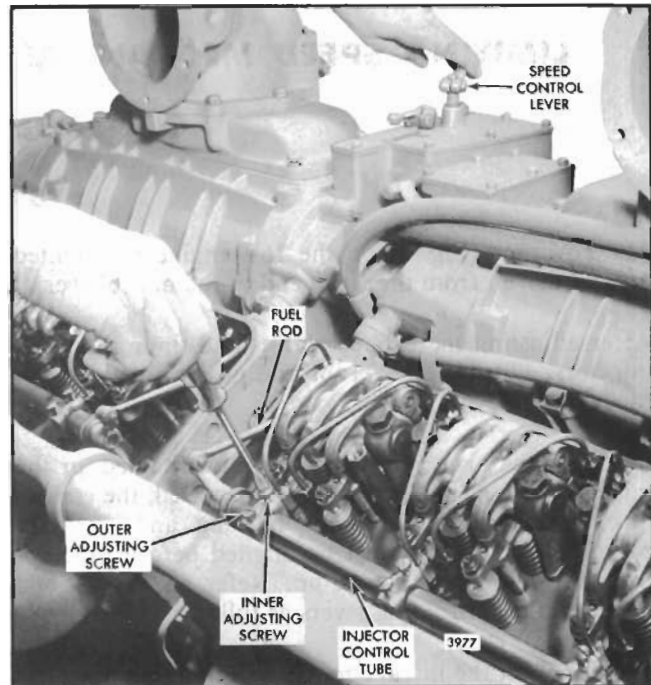

Fig. 4 - Positioning No. 4L Injector Rack Control Lever
7. Hold the speed control lever with light finger pressure (Fig. 4) and adjust the No. 4R injector rack by turning the inner adjusting screw down until a slight movement of the control tube is observed or a step-up in effort to turn the screw driver is noted. This will place the rack in the full-fuel position. Turn the outer adjusting screw until it bottoms lightly on the control tube. Then alternately tighten both the inner and outer adjusting screws.